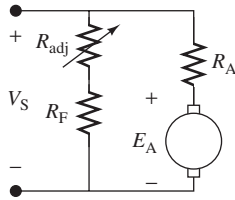

FIGURE P13.22 Circuit for Problem 13.22.
- 13.22 (A) For a speed control motor (see circuit in Figure P13.22), given $E_A = K \phi \omega_m$, express the speed of the motor in terms of K , ϕ , I_A , I_F , R_{adj} , R_F , and R_A .